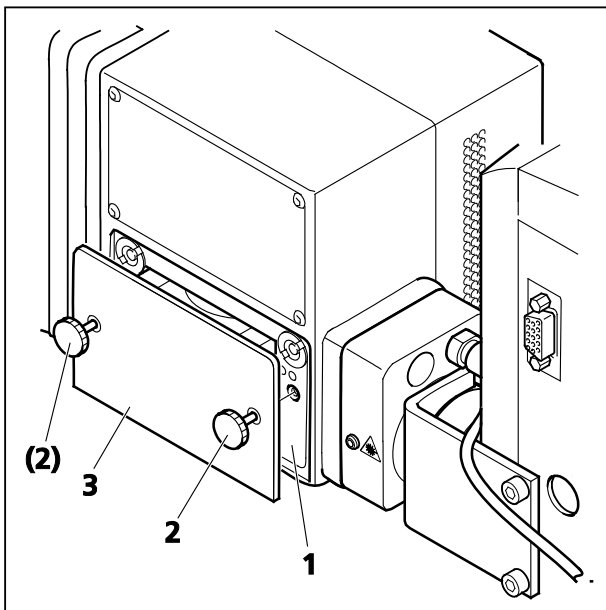

Fig. 18 Filter insert of the LSM *BiG*
- Loosen the two knurled screws (Fig. 18/2).
- Remove the filter insert (Fig. 18/3) of the LSM *BiG* (Fig. 18/1) and put it down.
- After exchanging the filter module, replace the filter insert (Fig. 18/3) into the LSM *BiG* (Fig. 18/1).
- Fasten the two knurled screws (Fig. 18/2).